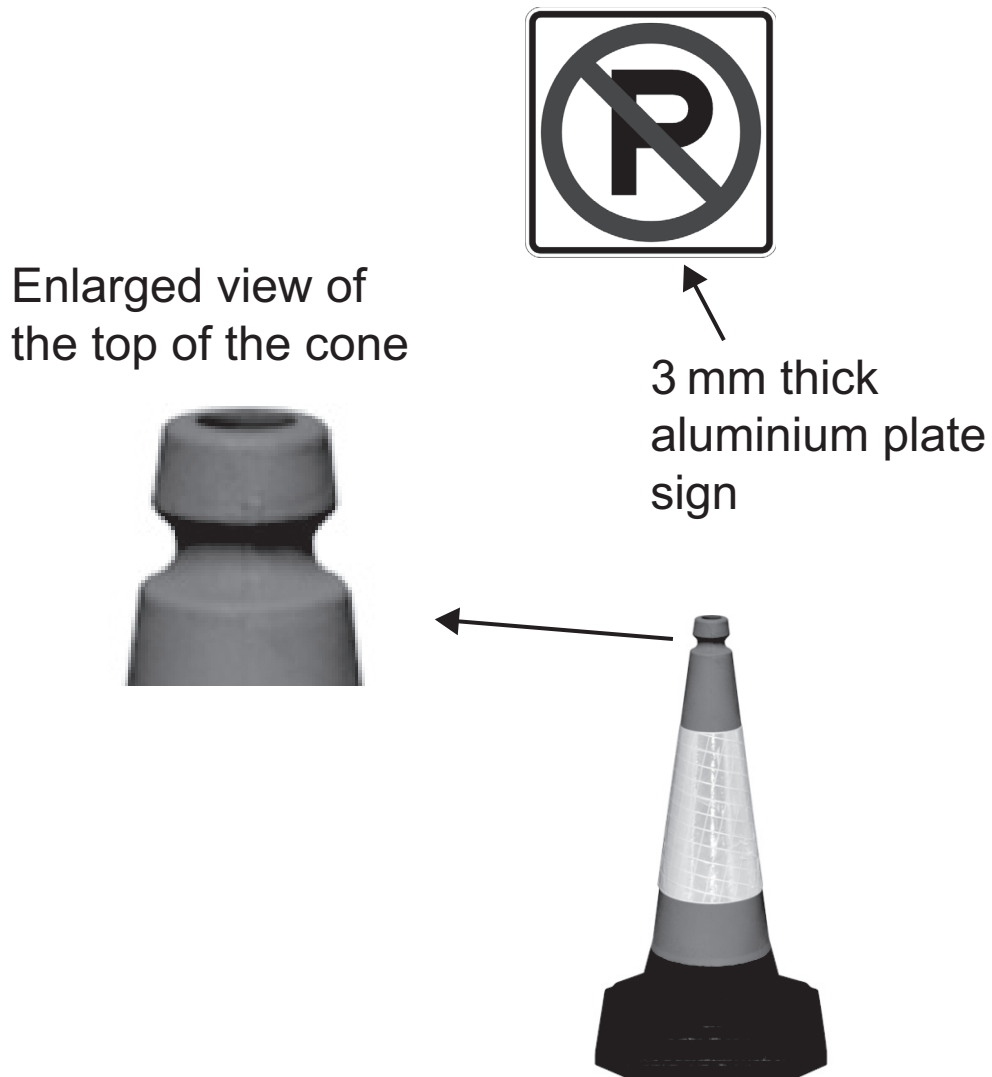

Fig. 15
- (h) (i)** With reference to **Fig. 15** and on the blank A3 pro forma (answer number **6(h)(i) and (ii)**) use detailed annotated sketches to produce **one** possible solution for the following:
An appropriate design that would allow the user to quickly and securely attach or detach the sign shown in **Fig. 15** to the top of the cone without making any modifications to its shape or profile. Your design should ensure that the sign cannot rotate when fixed in position. Show how your design is attached to the back of the 3mm thick aluminium plate sign.